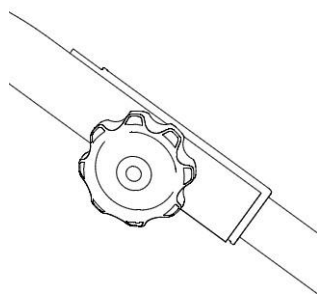

Fig. 3B
B). Tighten the knob to connect the upper and lower handrail. Fig.3B